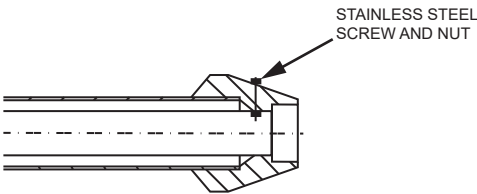

Figure 32. Installing the Rain Cap
- A. Cement Y concentric fitting to larger diameter kit pipe. See *Figure 32*.
- B. Cement rain cap to smaller diameter kit pipe. See *Figure 32*.
Note: Instead of cementing the smaller pipe to the rain cap, a stainless steel screw may be used to secure the 2 components together when field disassembly is desired for cleaning. See *Figure 32*. Locate the drill location dimple on the outside of the rain cap; at this location, drill a 3/16" hole through the cap and the inner pipe wall with the path of the hole perpendicular to the inner pipe **NOT** the outside of the cap; insert the screw and tighten the bolt; do not over tighten.
Note: Instead of cementing the smaller pipe to the rain cap, a field-supplied stainless steel screw may be used to secure the 2 components together when field disassembly is desired for cleaning. See **Figure 32** (page 32).